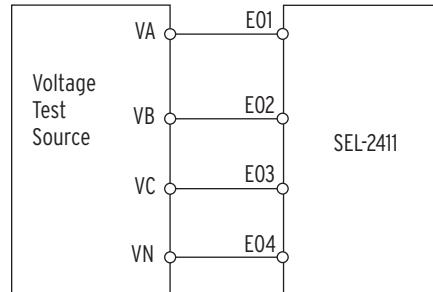

Figure 10.6 Wye Voltage Source Connections
Step 2. Connect the voltage source to the device, as shown in *Figure 10.6*.